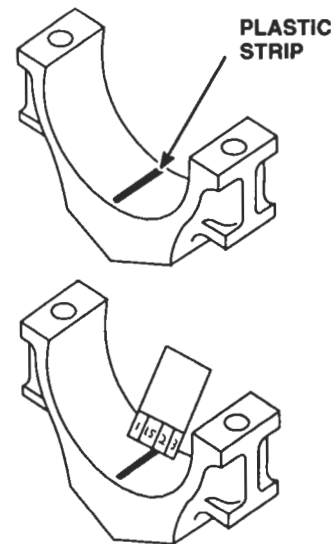

Figure 3. Measuring Bearing-to-Crankshaft Clearance with Plastic Strip
5. Compare the width of the flattened plastic strip at its widest point with the graduations on the envelope (Figure 3.) The number within the graduation on the envelope indicates the bearing clearance in thousandths of an inch. Taper may be indicated when one end of the flattened plastic strip is wider than the other. Measure each end of the plastic; the difference between the readings is the approximate amount of taper.